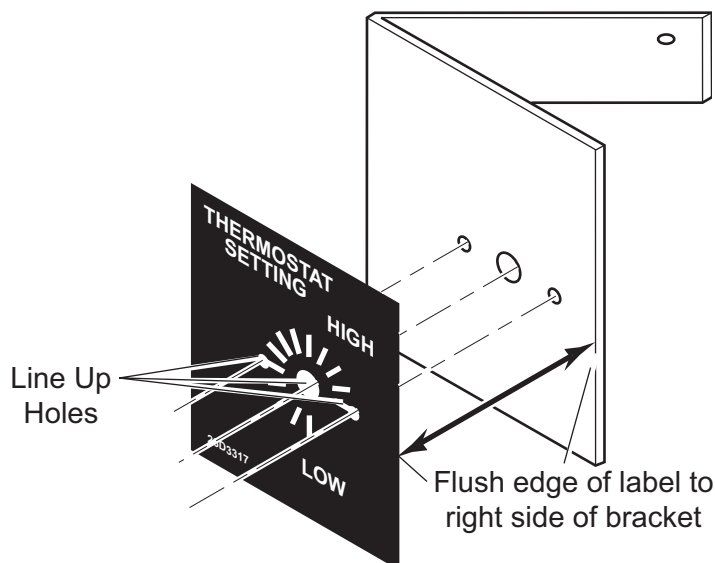

Figure 20 - Applying Label to Bracket
2. Peel away the paper backing on the label. Line up holes in label with holes on the bracket. Right side of label should flush with right side of bracket. See *Figure 20*. Press label firmly and smoothly to bracket.